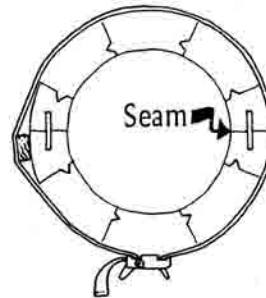

Figure 8-3
2. Cut blocks to use under band clamp opposite any areas that have expanded out of round (Fig. 8-3).